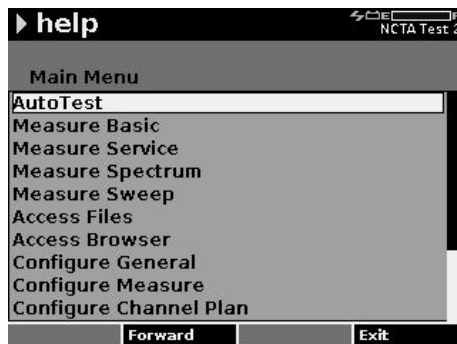

Figure 8 Help Main Menu
- 2 To display the Help main menu (Figure 8), use the **Menu** softkey.